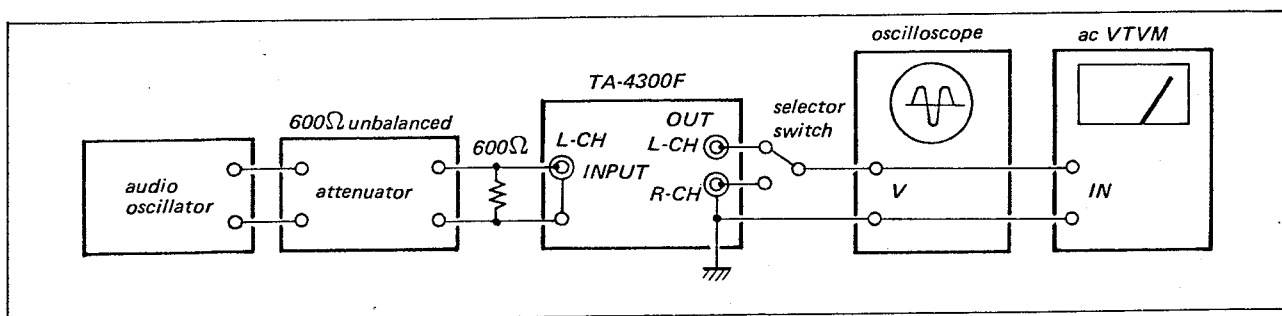

Fig. 3-3 Crosstalk measurement test setup
1. With the equipment connected as shown in Fig. 3-3, feed a signal to the left channel INPUT jack as specified in Table 3-3 to obtain a 0 dB output.